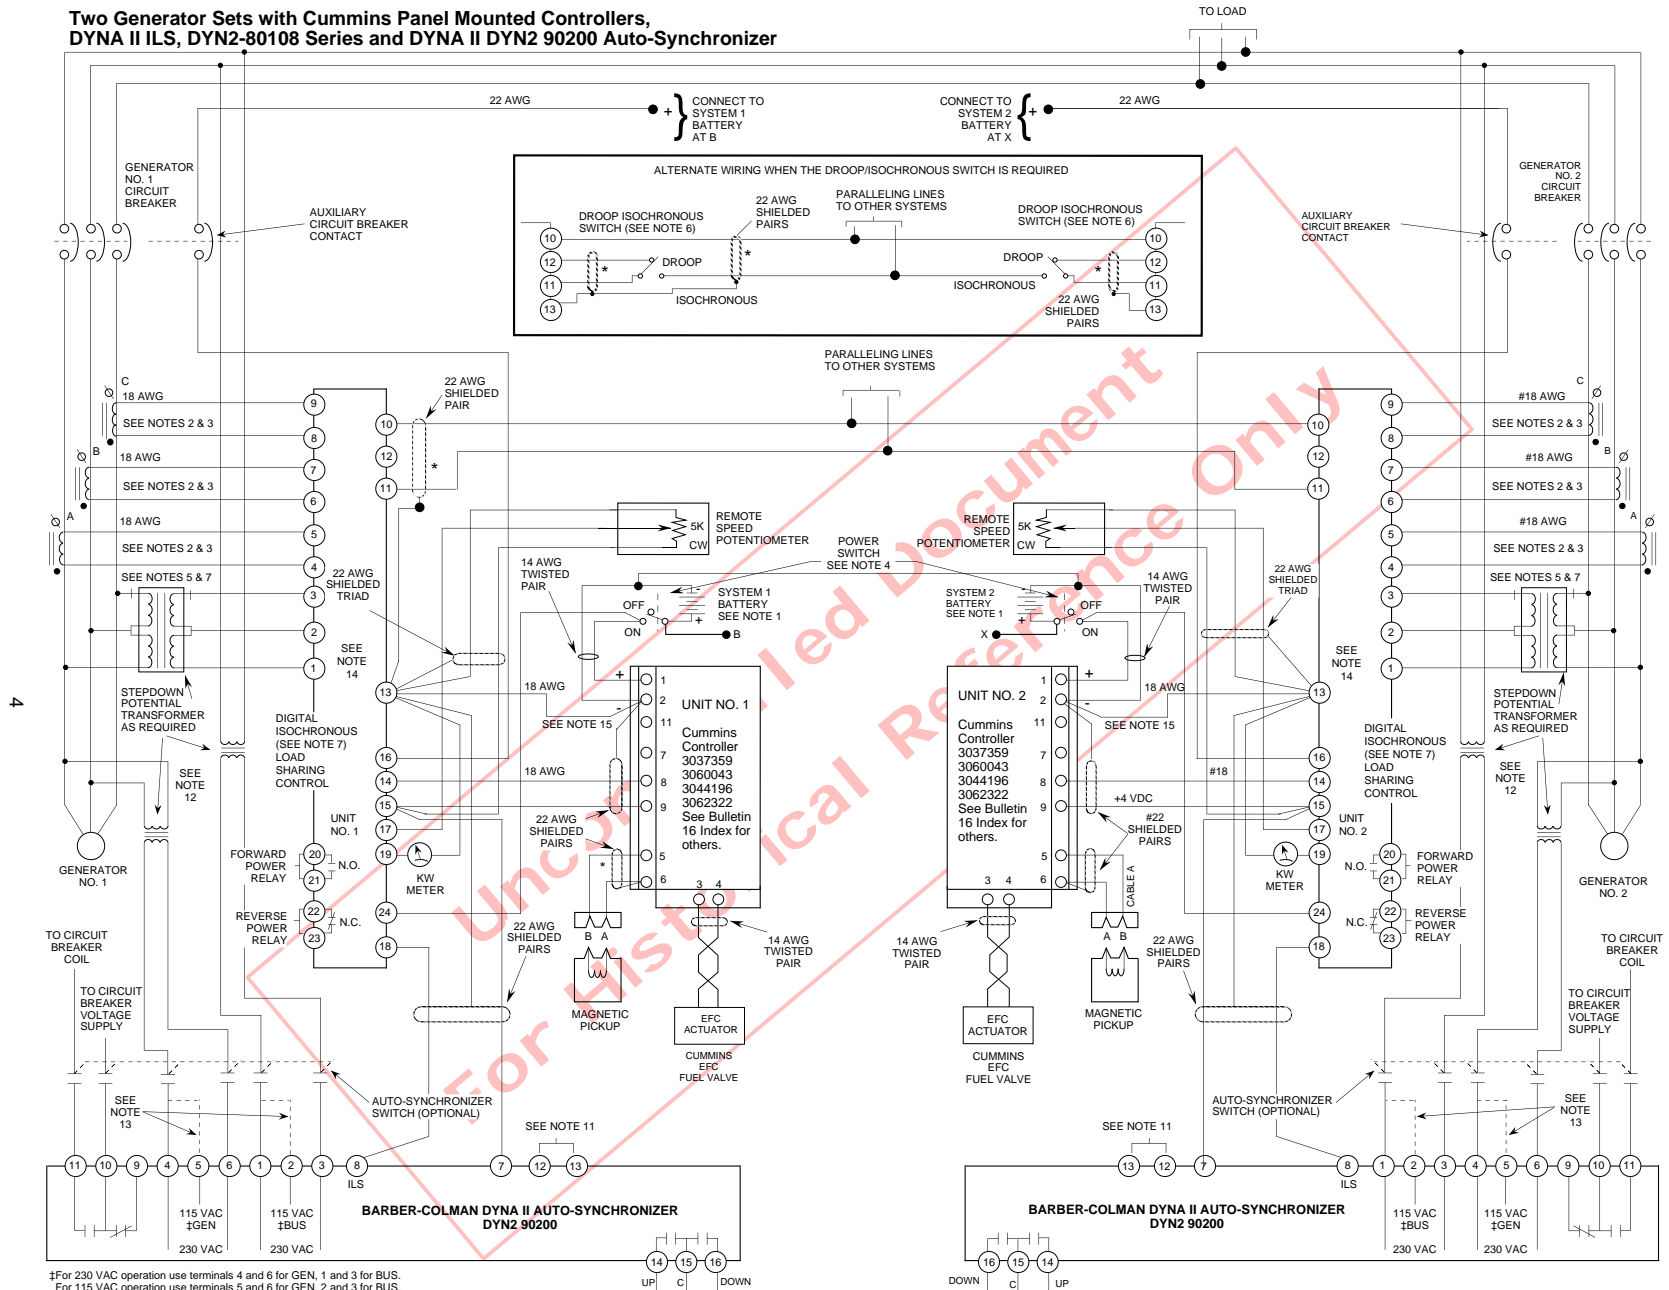

Figure 2.
Figure 2 illustrates the wiring of two engine generator sets having Cummins governors, DYNA II Digital Isochronous Load Sharing Controls and DYNA II Auto-Synchronizers. Additional engine generator sets can be paralleled by wiring them at the point designated, PARALLELING LINES TO OTHER SYSTEMS.
14. Shielded wires are to be terminated on one end, as shown in the diagram, Figure 2.